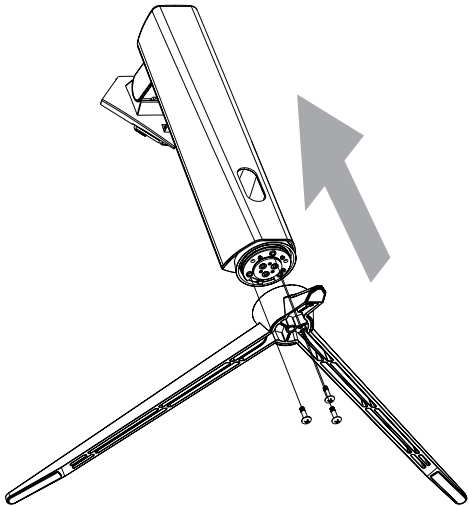

Figure1
- 1. Insert the base into the support, and lock 4 M4*16 screws, as shown in Figure1.